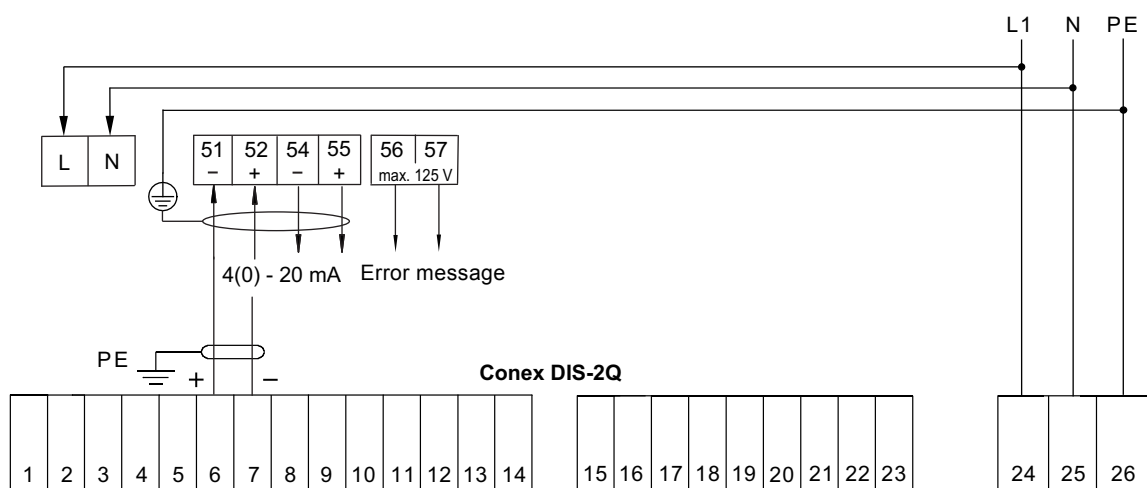

Fig. 16 Terminal connection diagram Conex® DIS-2Q
2. Establish electrical connections according to the diagram shown in fig. 16.